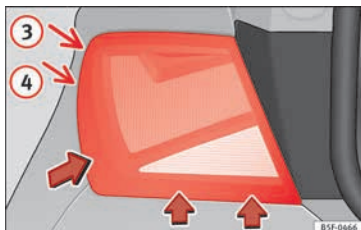

Fig. 116 Remove the rear light unit from side panel.
- Tilt the light in the direction of the arrows until it comes out (positions ③ and ④) » **Fig. 116**.